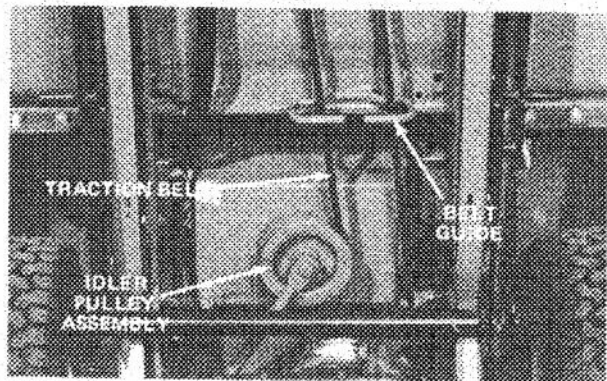

Figure 43
3. Reach under the tractor frame just forward of the rear wheels, grasp the idler pulley assembly, (Fig. 43) pull on it to relieve tension on the belt and remove the belt from the belt guide and idler pulley (Fig. 43).